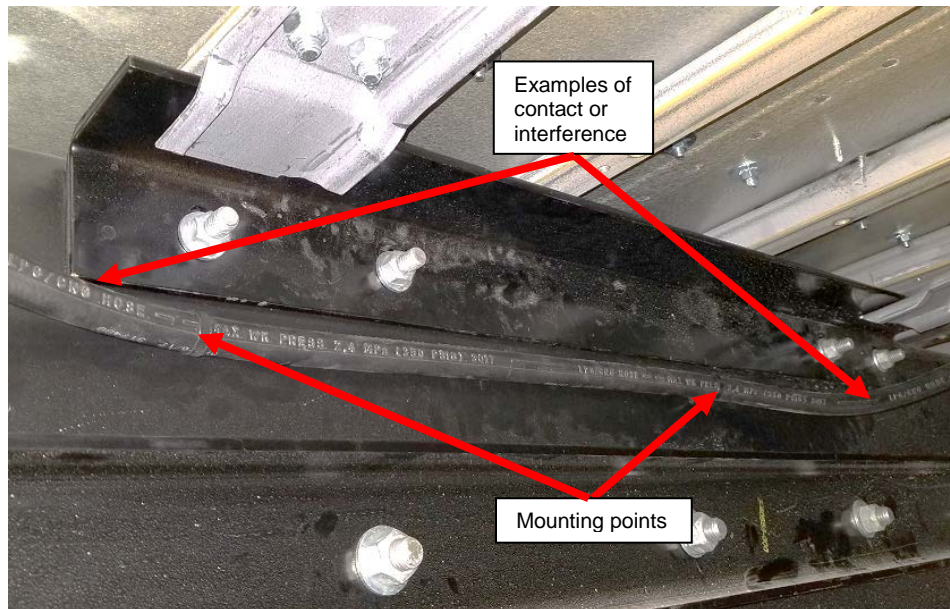

Figure 6: Location of Straps Holding the Fuel Line
10. Inspect cable clamps at two points where the fuel line is mounted, as shown in **Figure 6**. Ensure the line is not contacting corners or edges. Remove any slack that could allow the line to lay on the frame rail.